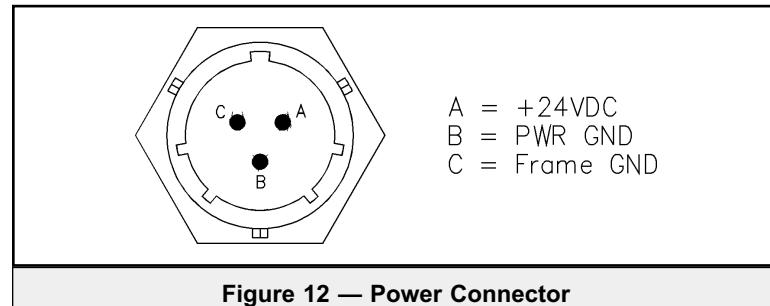

Figure 12 — Power Connector
Figure 12 shows the power connector pin designations.
5. Close the LRP820 and connect a separate +24V power supply to the external power connector shown in Figure 12, page 15.
5. Connect a separate +24V power supply to the external power connector shown in Figure 12, page 15.